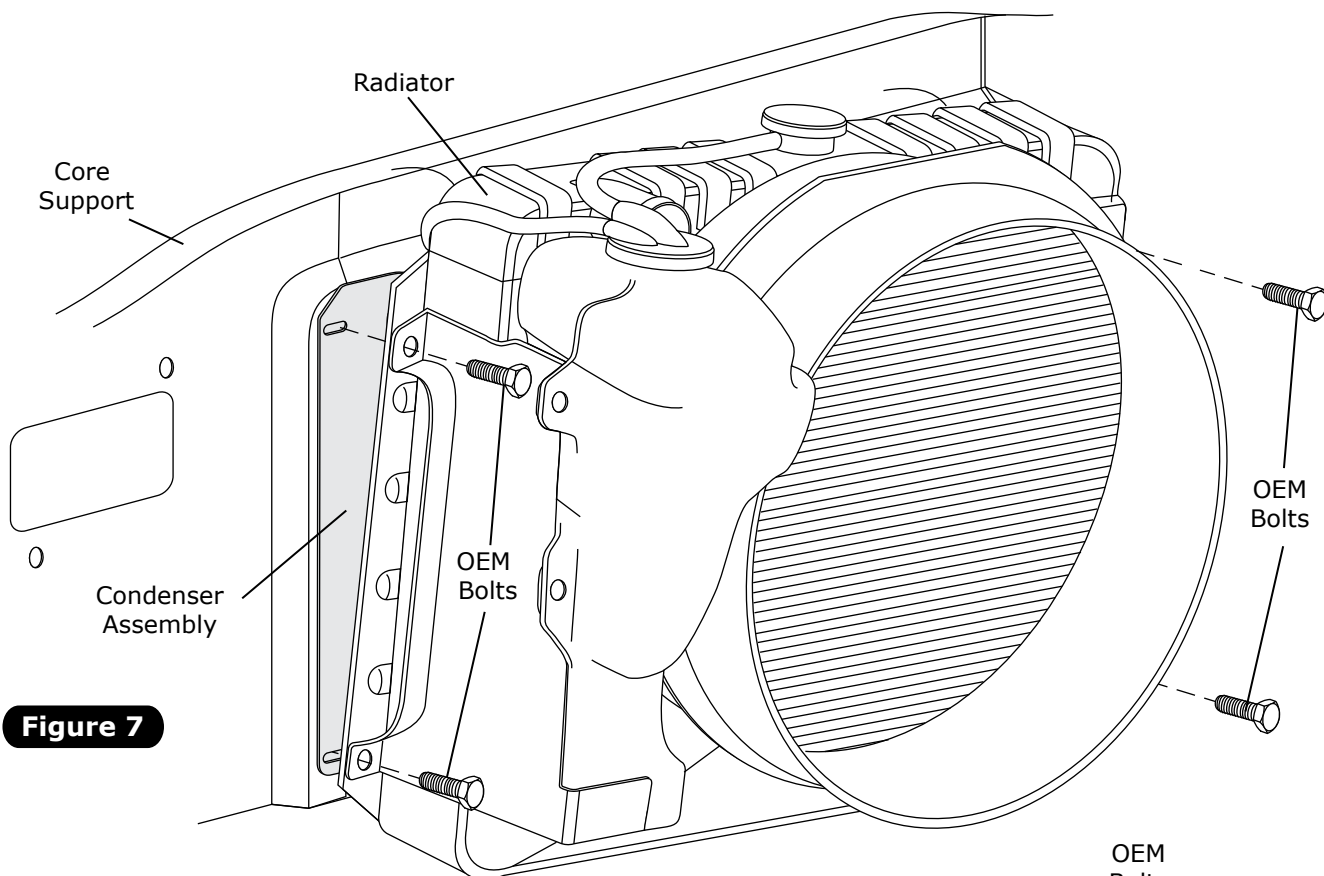

Figure 7
1. Using the OEM hardware secure the condenser assembly between the radiator and the core support see Figure 7, below.